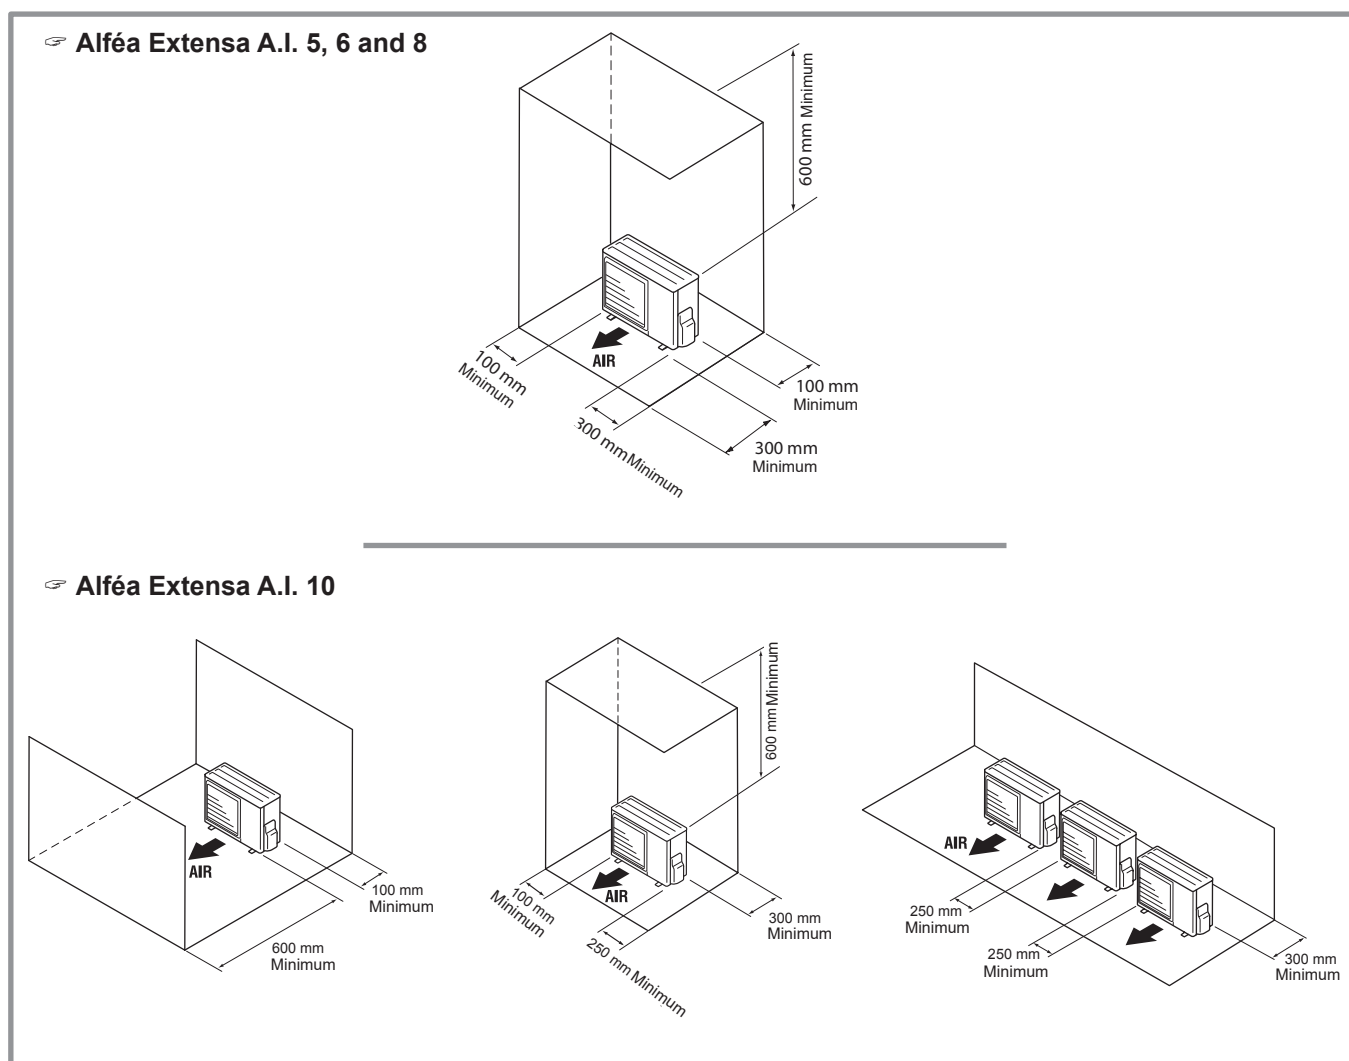

figure 15 - Minimum installation clearances around the outdoor unit
- ☞ **The outdoor unit must only be installed outside. If a shelter is required, it must have broad openings on all 4 sides and installation clearances must be observed (figure 15).**
- The unit must be easily accessible for future installation and maintenance work (figure 15).
- Nothing should obstruct the air circulation through the evaporator and out from the fan (figure 15).